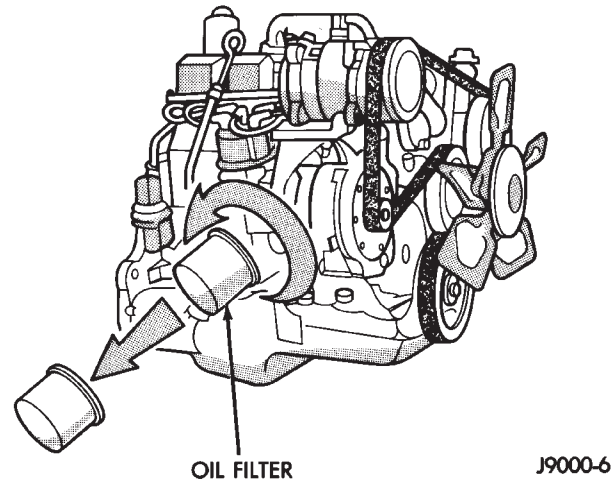
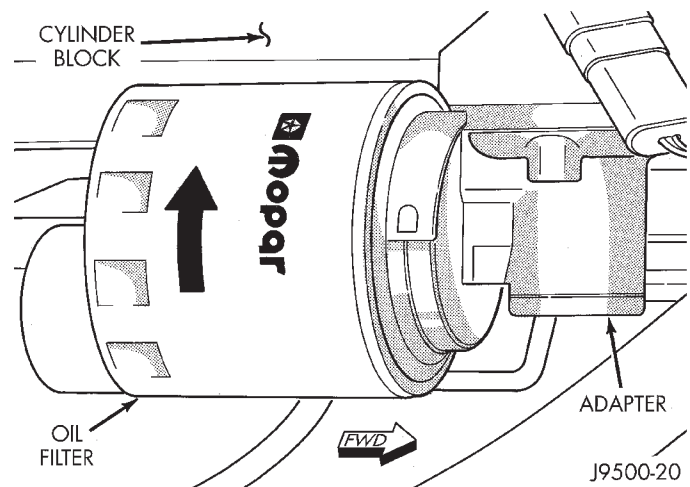
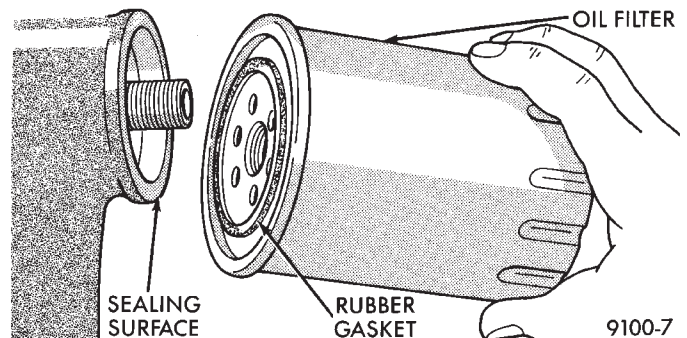

Fig. 8 Oil Filter—2.5L Engine
Fig. 9 Oil Filter—4.0L Engine
Fig. 10 Oil Filter Sealing Surface—Typical
(1) Position a drain pan under the oil filter.
(2) Using a suitable oil filter wrench loosen filter.
(3) Rotate the oil filter counterclockwise to remove it from the cylinder block oil filter boss or filter adapter housing (Fig. 8) (Fig. 9).
(4) When filter separates from adapter nipple, tip gasket end upward to minimize oil spill. Remove filter from vehicle.
(5) Make sure old gasket comes off with oil filter. With a wiping cloth, clean the gasket sealing surface (Fig. 10) of oil and grime.
(1) Lightly lubricate oil filter gasket with engine oil or chassis grease.
(2) Thread filter onto adapter nipple. When gasket makes contact with sealing surface, (Fig. 10) hand tighten filter one full turn, do not over tighten.
(3) Add oil, verify crankcase oil level and start engine. Inspect for oil leaks.